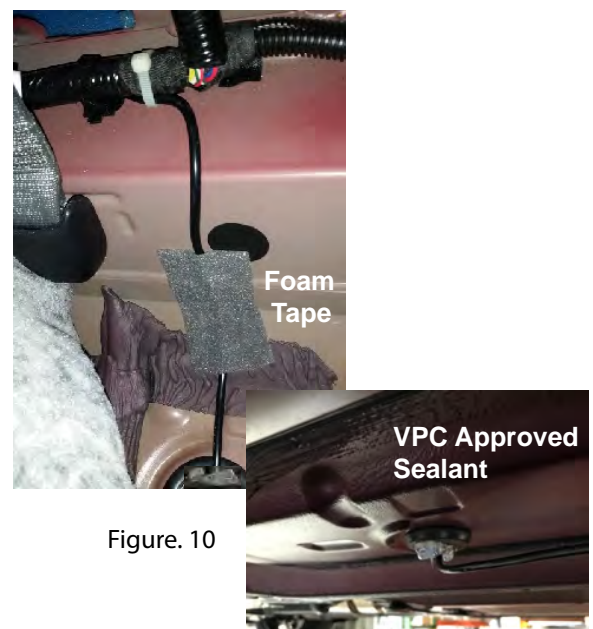

Figure. 10
17. Route rear harnesses toward the threshold and tape to threshold using foam tape. Wire tie to factory harness as shown (Figure 10).